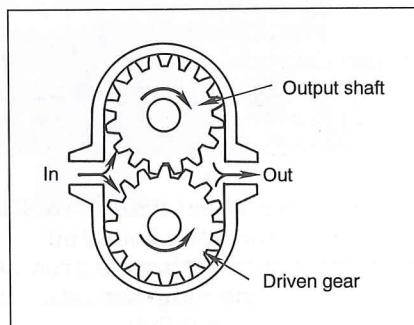

Fig. 9-24 — Fluid flow turns the gears and rotates the shaft in gear-on-gear motors.
**Gear-on-gear motors.** This design is one of the most common for hydraulic units. They consist of a pair of matched spur or helical gears enclosed in a case, Fig. 9-24. These units typically develop maximum torques of about 6,000 lb-in. and speeds to 3,000 rpm.